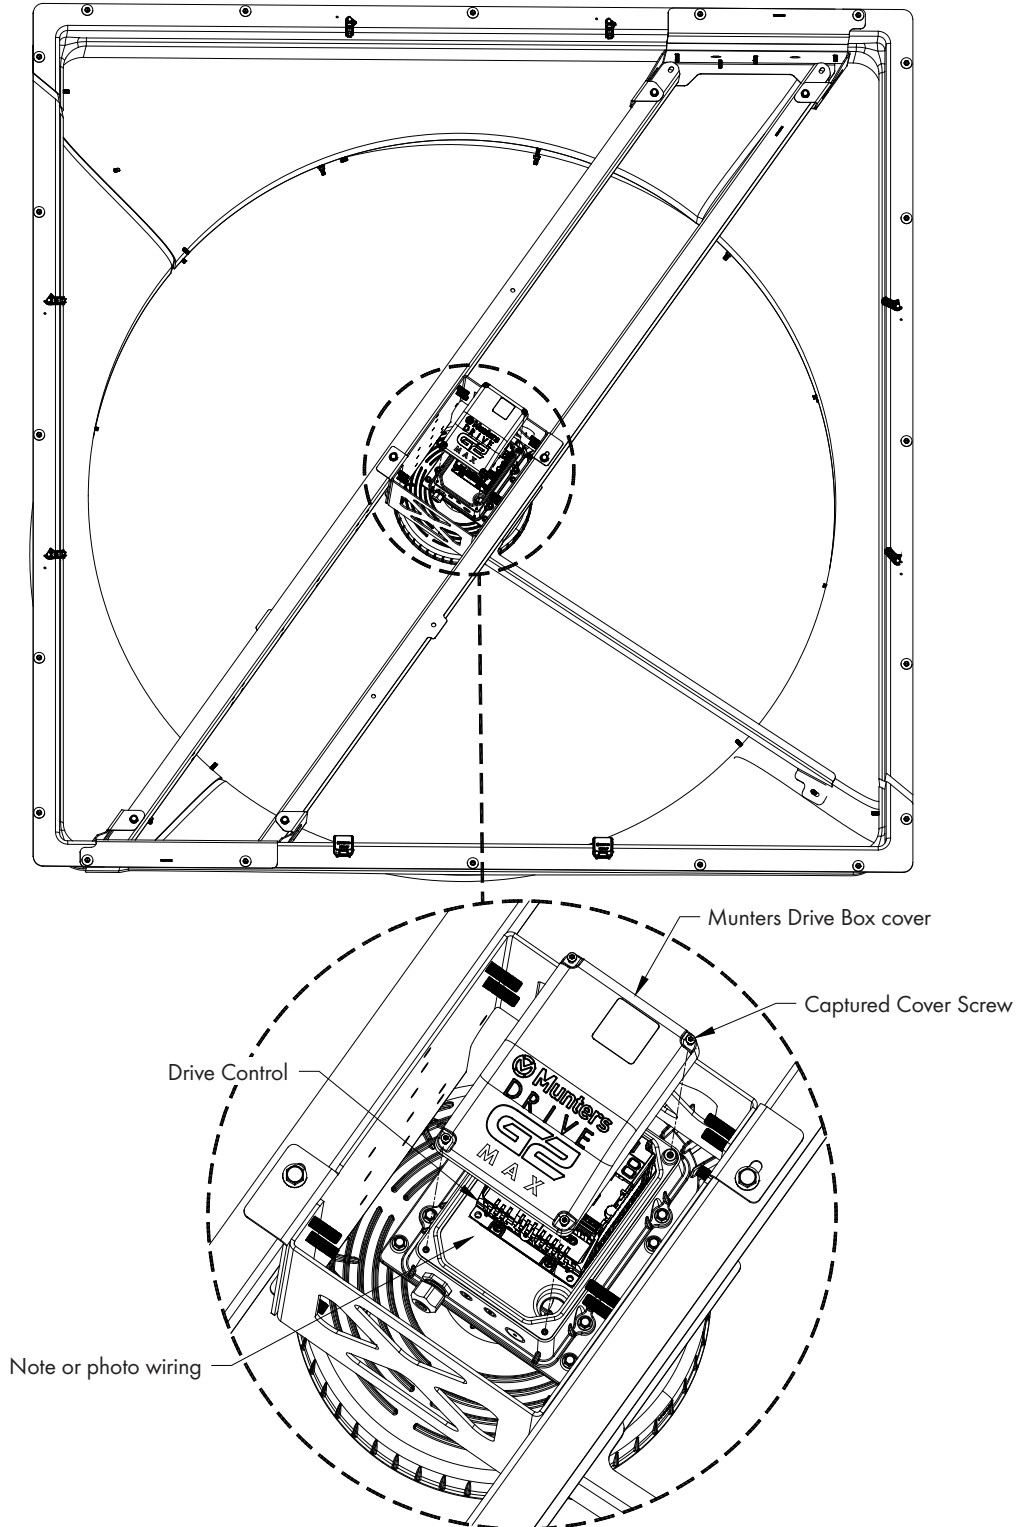

Figure 3
Loosen the (4) captured screws in the Munters Drive Box cover to access the drive wiring. Make a note of or take a photo of the wiring. Disconnect 3 phase power and the control wires from the drive and from the box. Then replace the cover. See Figure 3.